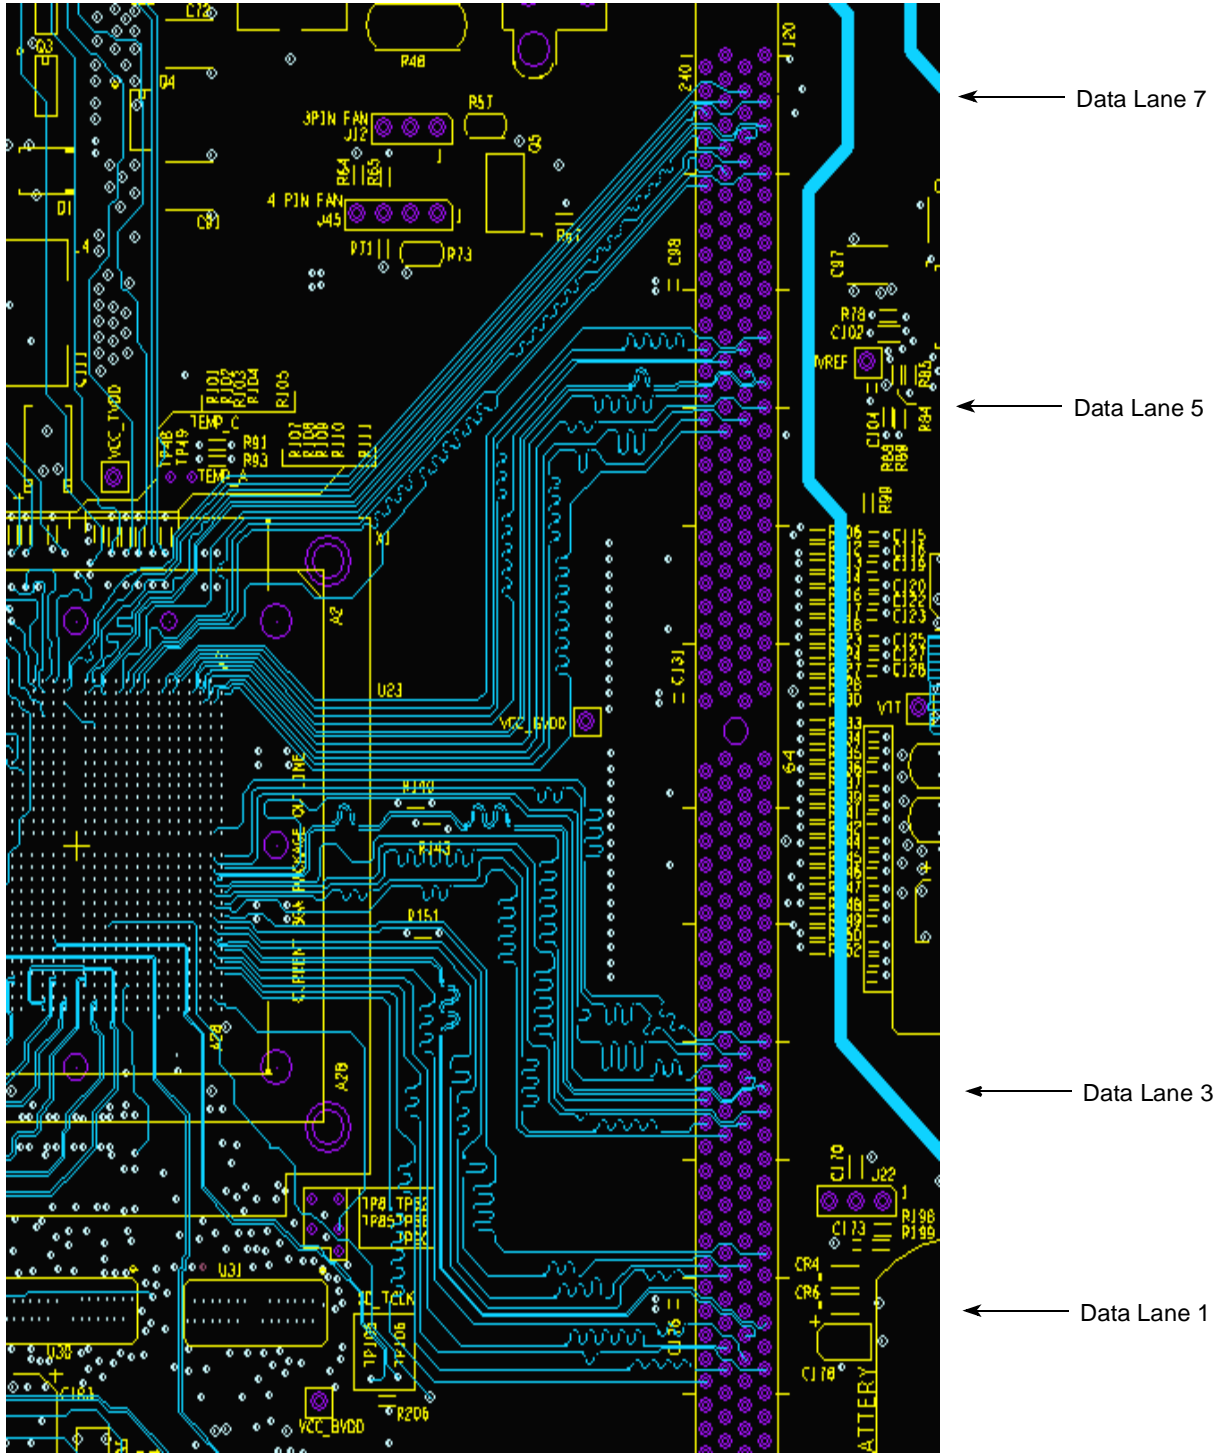
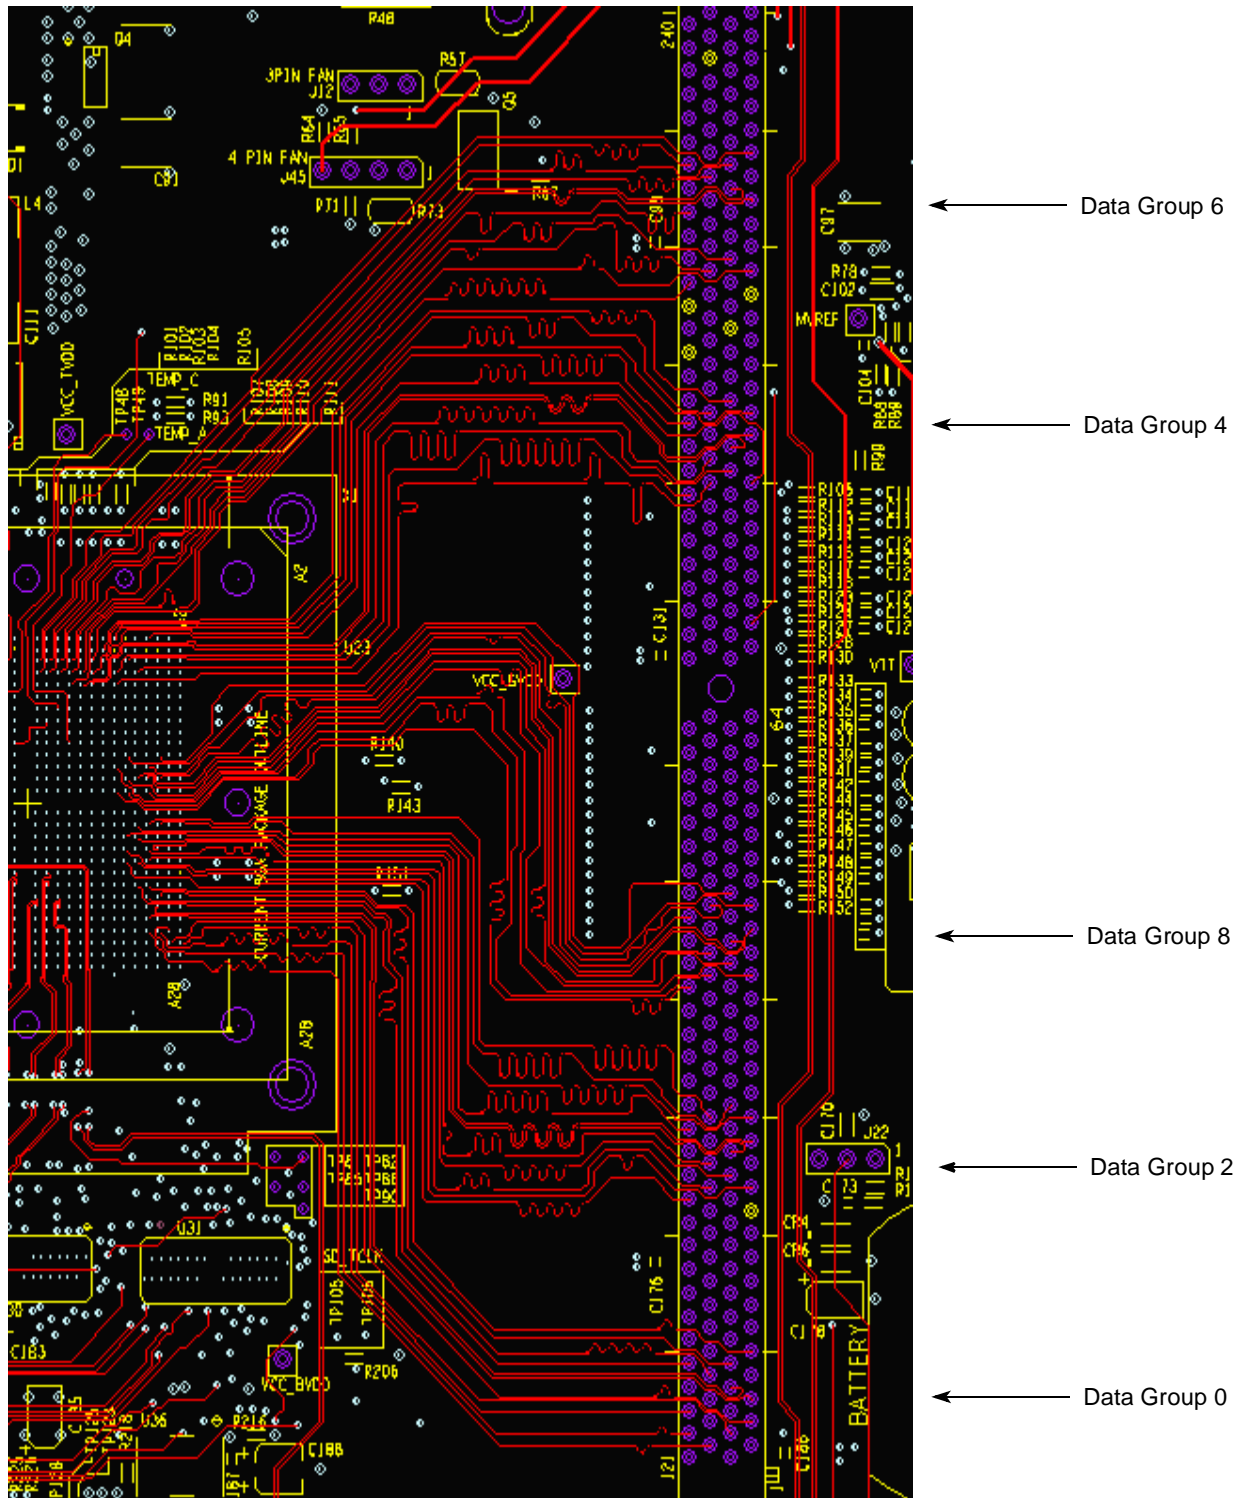

Figure 1. Alternating Data Byte Lanes on Different Critical Layers—Part 1
Figure 2. Alternating Data Byte Lanes on Different Critical Layers—Part 2
28.	The DDR2 data bus consists of 9 data byte lanes (assuming ECC is used). All signals within a given byte lane should be routed on the same critical layer with the same via count. Note: Some product implementations may only implement a 32-bit wide interface. Byte Lane 0—MDQ(7:0), MDM(0), MDQS(0), $\overline{\text{MDQS}}(0)$ Byte Lane 1—MDQ(15:8), MDM(1), MDQS(1), $\overline{\text{MDQS}}(1)$ Byte Lane 2—MDQ(23:16), MDM(2), MDQS(2), $\overline{\text{MDQS}}(2)$ Byte Lane 3—MDQ(31:24), MDM(3), MDQS(3), $\overline{\text{MDQS}}(3)$ Byte Lane 4—MDQ(39:32), MDM(4), MDQS(4), $\overline{\text{MDQS}}(4)$ Byte Lane 5—MDQ(47:40), MDM(5), MDQS(5), $\overline{\text{MDQS}}(5)$ Byte Lane 6—MDQ(55:48), MDM(6), MDQS(6), $\overline{\text{MDQS}}(6)$ Byte Lane 7—MDQ(63:56), MDM(7), MDQS(7), $\overline{\text{MDQS}}(7)$ Byte Lane 8—MECC(7:0), MDM(8), MDQS(8), $\overline{\text{MDQS}}(8)$ To facilitate fan-out of the DDR2 data lanes (if needed), alternate adjacent data lanes onto different critical layers? See <a href="#">Figure 1</a> and <a href="#">Figure 2</a> . Note: If the device supports ECC, Freescale highly recommends that the user implement ECC on the initial hardware prototypes.
To facilitate ease of break-out from the controller perspective, and to keep the signals within the byte group together, the board designer should alternate the byte lanes on different critical layers, (see Figure 1 and Figure 2).